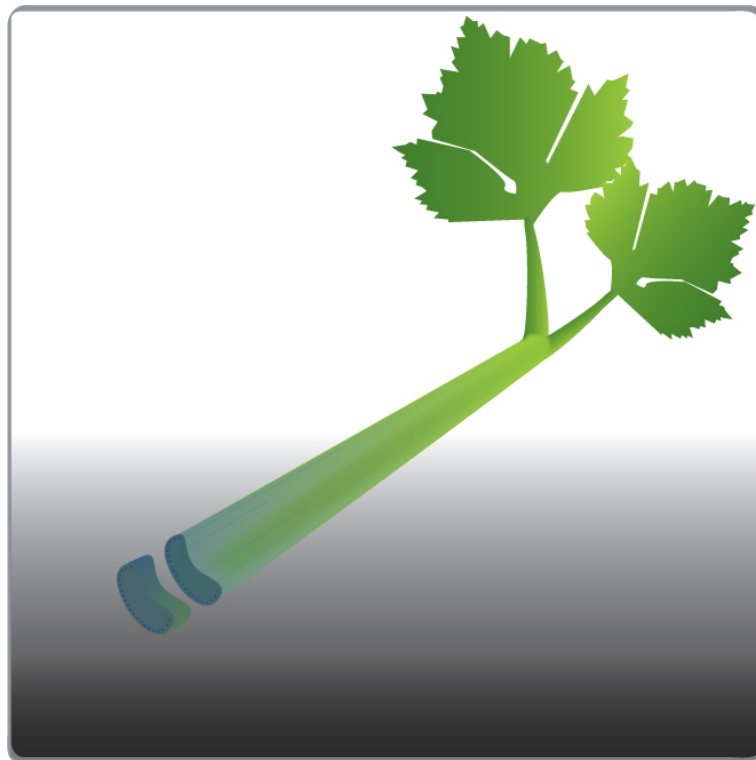

Figure 1
3. Watch the cross section under the magnifying glass. Try to identify the xylem tubes (see figure 1)